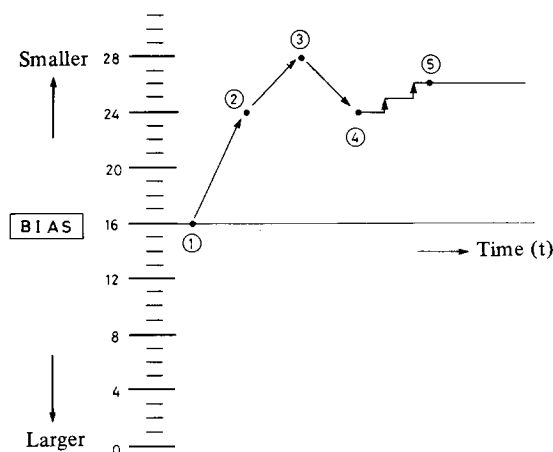
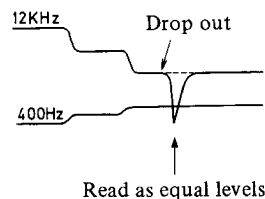
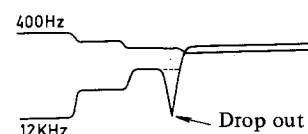

Fig. 2 Bias adjustment method
Fig. 3 Example of misoperation caused by drop out
Fig. 4 Example where effect of drop out is avoided
First the bias is set to step 16 which is in the center of the bias range shown in Figure 2. Then the 400Hz/12kHz mixed signal is subjected to a comparison operation to see which component is larger. If the 12kHz signal is larger, then the bias level is too small. If the 400Hz signal is larger, on the other hand, the bias level is too large. In the example shown in Figure 2, the bias level at step 16 is too large, so the bias is reduced by $\frac{1}{4}$ of the total range (8 steps) to position (2) where the 400Hz and 12kHz components are again compared. If the 400Hz signal is still larger than the 12kHz signal, the bias level is further reduced by $\frac{1}{4}$ of the total (4 steps) (3) and the components then compared again. This procedure is used for rough adjustment of the optimum bias. If at this stage, the 12kHz signal is now found to be greater than the 400Hz signal, the optimum bias is known to exist between steps 24 and 28. The operation is now switched to fine adjustment – the bias is increased by $\frac{1}{4}$ and then reduced one step at a time from step 24. The step where the component signal size relationship is switched from $400 > 12k$ to $12k > 400$ is taken as the optimum bias (5), and the bias is set at this level. This fine adjustment operation proceeds only from greater to lower bias levels in order to avoid misoperation due to possible drop outs. The effects of a drop out on the bias adjustment when the bias is changed from a smaller to a larger level is indicated in Figure 3, while the reverse case is indicated in Figure 4.